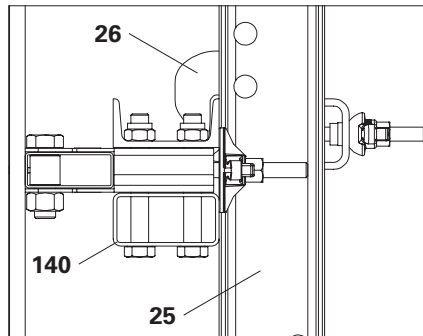

Fig. C1.05
6. Mount Waler Fixation U100 – U120 (**26**) and secure in position by tightening the quick jack nut. (Fig. C1.05 + C1.05a)